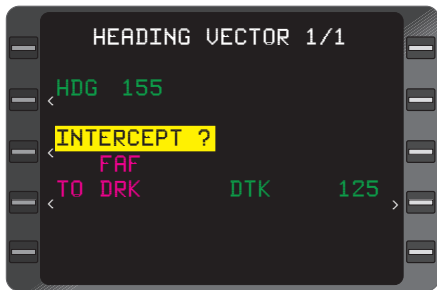

Figure 3-65
- 9. **HDG** Key - DEPRESS to display the **HEADING VECTOR** Page. (Figure 3-65)